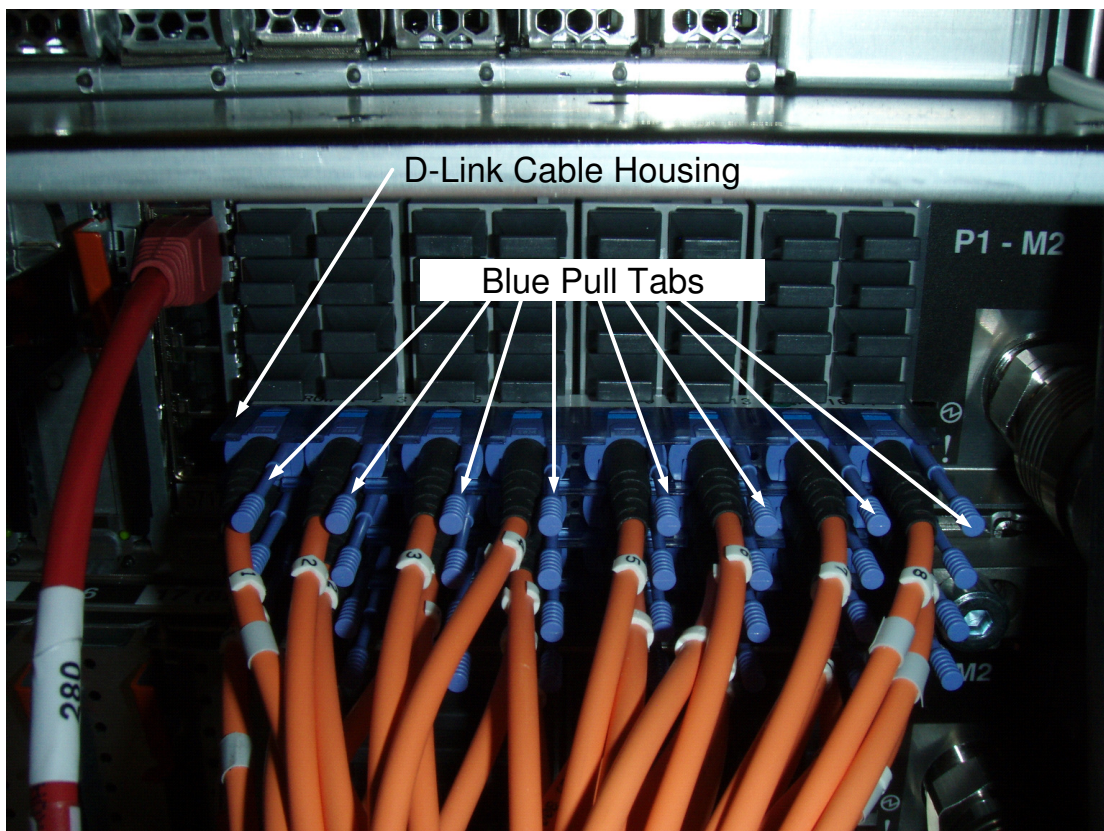
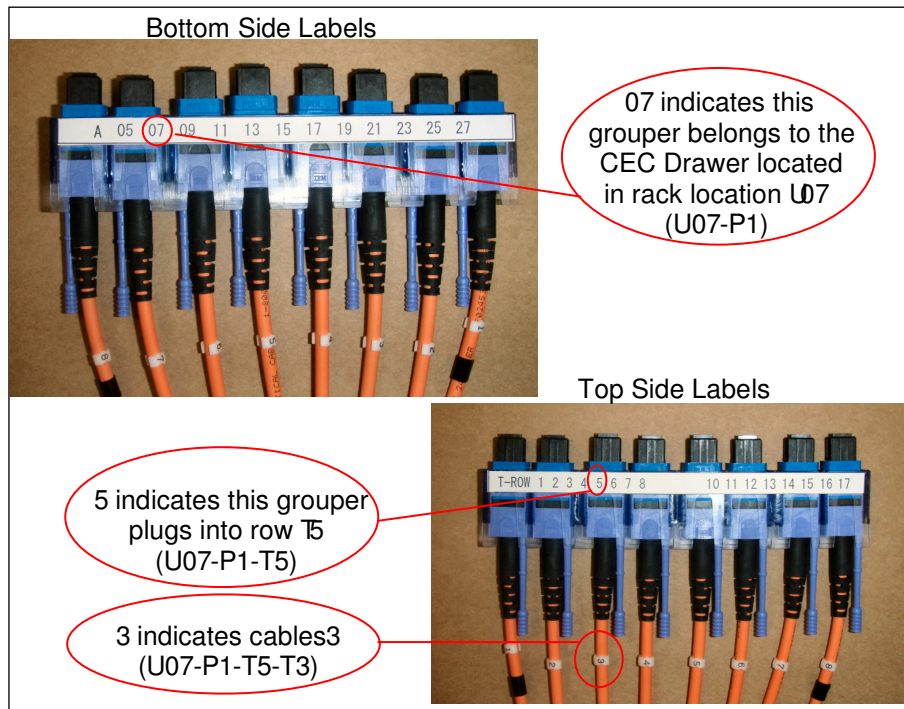

Figure 16 D-Link Grouper
Figure 17 D-Link Grouper assembly detail
STEP 27 Remove the CEC Drawer D-Links from both the left and right rear of the CEC Drawer (Right side of CEC shown in Figure 16) being serviced by pulling on the blue tabs of each D-Link. Take care not to bump the fiber optic connectors against any surface including body parts. (The row of D-Links are contained within the D-Link Grouper and will remain in the housing. It is worth noting that the housing has a label on it with its location and each cable has a label – see Figure 17.) Must remove cable support brackets.